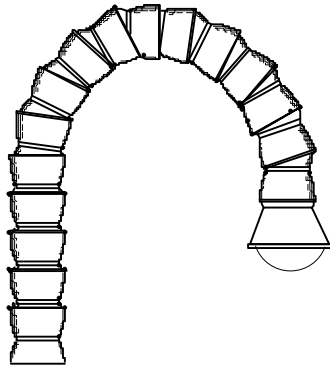
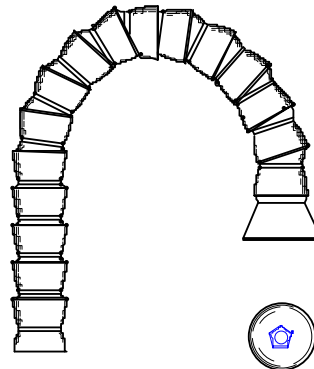

Figure 1
Figure 2
1. Adjust the Loc-Line™ hose and round hood so the hood is oriented as shown in Figure 1 below. Be sure that the second port on the cover is closed - install the yellow cap to close the second port.
2. Insert the HAKKOBALL™ into the hood. If it remains in the hood, airflow is adequate for operator safety (see Figure 1). If it drops (see Figure 2), airflow is restricted and the filters must be checked.